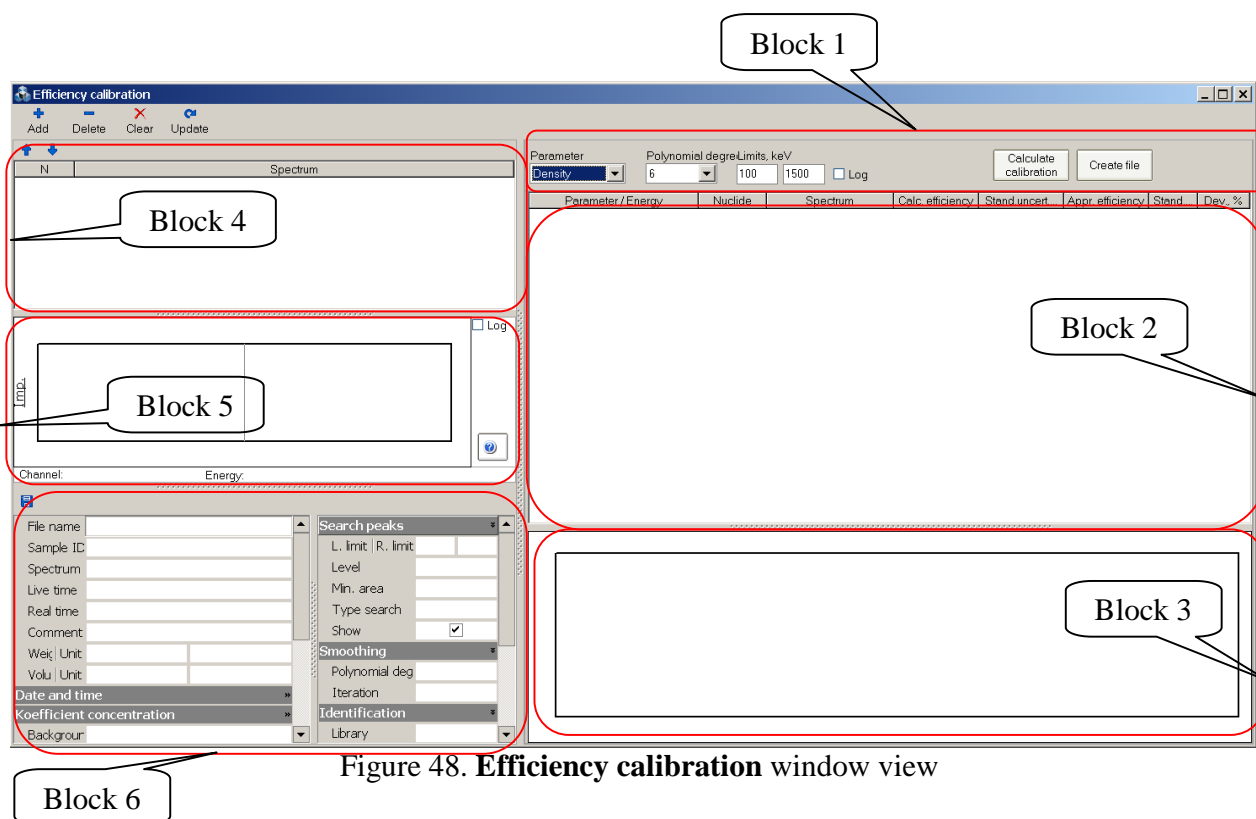
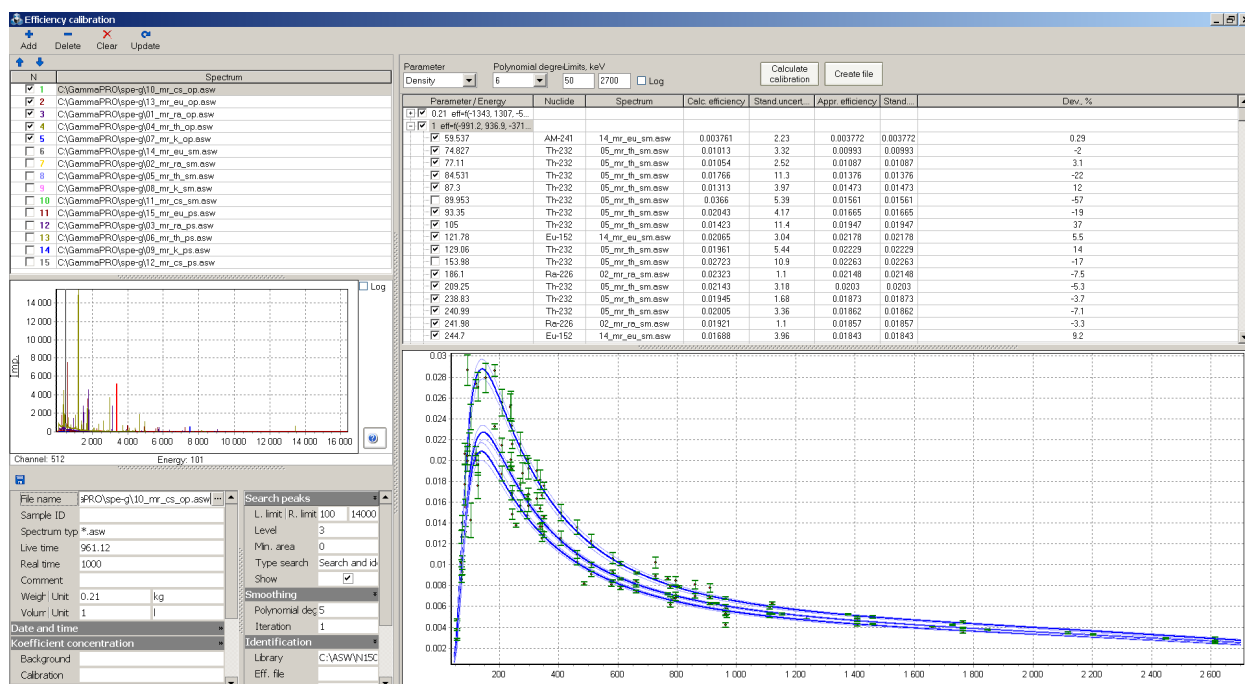
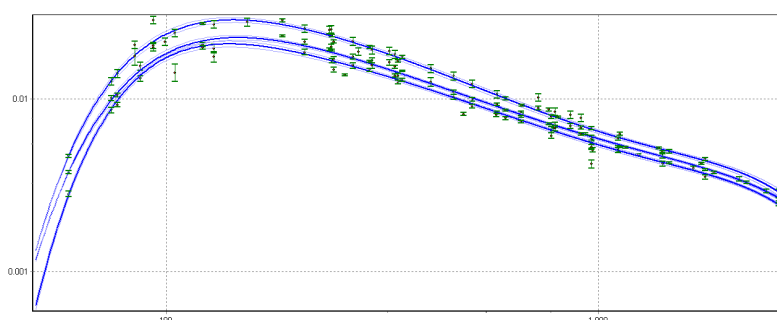

Figure 48. Efficiency calibration window view
Figure 50. Efficiency calibration window view after calculation of dependence of efficiencies on energy
Figure 50.1 View of efficiency curves on a logarithmic scale
9.3.6 Open the **Efficiency calibration** window (see Fig. 48) by pressing  on the toolbar of the programme. Choose tab **Efficiency calibration** which is the first tab in the window's title.
9.3.8 Set parameters of the efficiency curve (Fig. 48, block 1):
9.3.9 Press **Calculate calibration** (Fig. 48, block 1), then the table (Fig. 48, block 2, and Fig.50) will show a tree with data on efficiencies, and the graph below will display the curves approximating calculated points of values of efficiencies (Fig. 48, block 3, and Fig.50).
9.3.11 To explore the shape of received curves, you can toggle the scale to the logarithmic mode. To do this, you should check **Log** located on the panel (Fig.48, block 1). The appearance of the graph will change, and will look as shown in Fig.50.1.
After spectra have been loaded, their list appears in a table (Fig.48, block 4) or as shown on Figure 50. Histograms of spectra are displayed on a graph (Fig.48, block 4 or Fig.50).
The information with parameters of the current (selected in the table) spectrum is displayed on the panel under the graph of spectra (see Fig.48, block 6). To be noted, the histogram of the current spectrum is displayed on a graph with a bold red line.